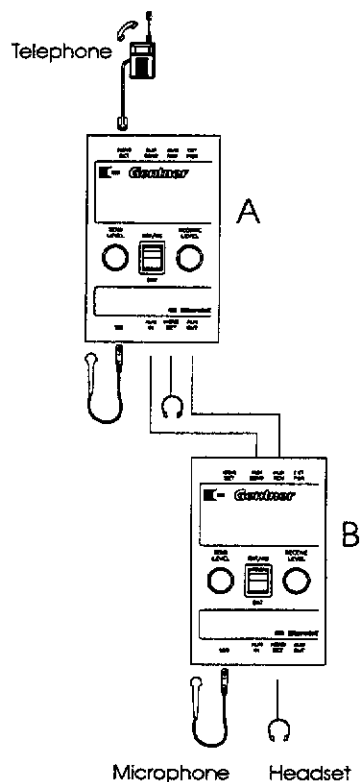

Figure 9
1. Set up Microtel "A" for general use as shown in Figure 9.
4. Connect mic and headphones to Microtel "B" as shown in the Figure 9. The two units will now talk to each other and will feed audio down one telephone line.